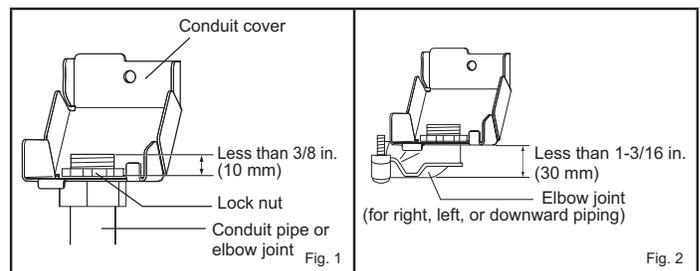
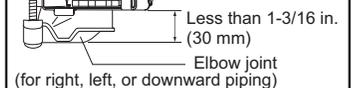

Fig. 1
Fig. 2
- 4) Fix conduit pipe (for rear piping) / elbow joint (for right, left, or downward piping) to conduit cover with lock nut. The thread part of installed conduit pipe / elbow joint appearing inside should be less than 3/8 in. (10 mm). (Fig. 1) Elbow joint should appear less than 1-3/16 in. (30 mm) outside. (Fig. 2)
- Put the refrigerant piping and the drain hose together, then firmly apply felt tape (7) from the end. Felt tape (7) overlap width should be 1/3 the tape width. Use a bandage stopper at the end of felt tape (7).
- Pull out the drain cap at the rear right of the indoor unit. (Fig. 1)
- Pull out the drain hose at the rear left of the indoor unit. (Fig. 2)
- The drain hose should point downward for easy drain flow. (Fig. 1)
- If the drain hose provided with the indoor unit is too short, connect it with drain hose (I) that should be provided at your site. (Fig. 2)
- 1) Cut the copper pipe correctly with pipe cutter. (Fig. 1, 2)